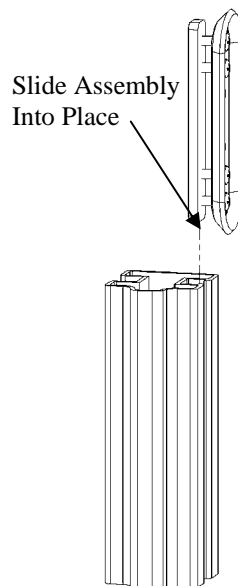

Figure 2
2. Slide the locking plate, with mounting bracket attached, into panel slot to desired height (see Figure 2).